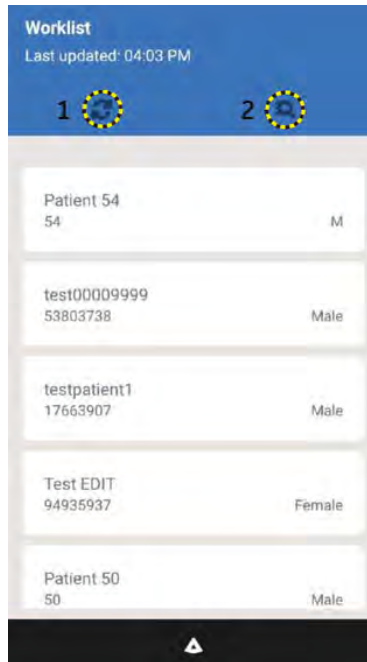

Figure 5-33. Refresh Worklist
3. Press the **Search** icon to search a particular patient. See Figure 5-33 on page 5-39